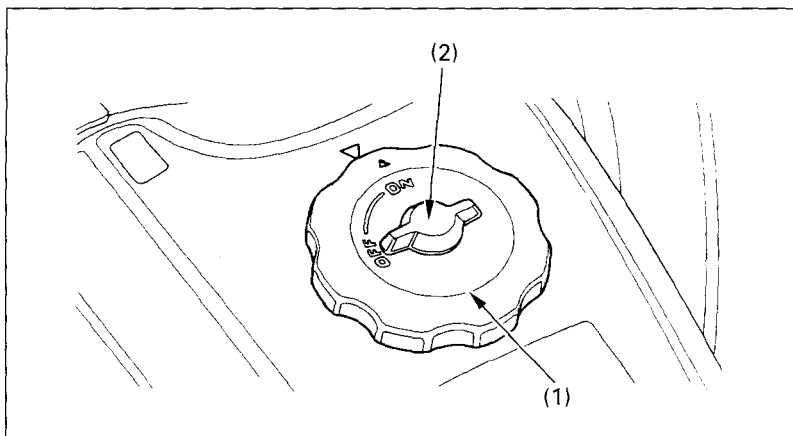

Fig. 2-17 (1) Fuel fill cap
The fuel fill cap (Fig. 2-17) has a fuel cap vent lever (2) with ON and OFF positions. The lever should be turned to ON to allow fuel to flow when running the engine. Turn the vent lever to OFF to prevent fuel from flowing out the vent hole when transporting the FOURTRAX.